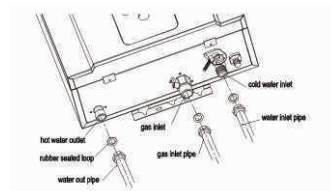

Figure 9
2. According to the requirements on the right, install expansion screws in the upper mounting holes, insert greenrubber particles in the lower mounting holes, then hang the water heater, put washers and nuts on top, tighten the nuts, and screw on the bottom Screws (Figure 9).